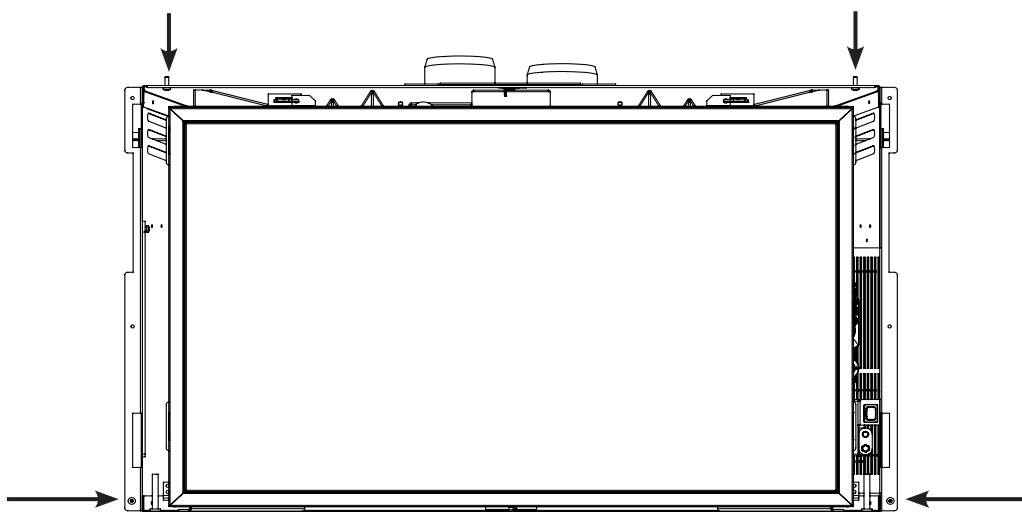

Figure 41: Screw Locations.
If Installing a Contemporary or Extruded surround panel lift the front up until it locks in place. Lift the panel upright in front of the fireplace with the top mounting flange pointing towards the fireplace. Slide the panel over the corresponding screws on top of the Top Extension and at the bottom of the Side Extension on each side (see Figure 41). Ensure the panel is secure before releasing it. The bottom screws can be tightened on the Contemporary and Extruded surrounds for a more permanent install.
1. Using the supplied hardware install a Trimmable Panel Bracket, on its short leg, onto each side of the stove using a T-20 Torx screwdriver. See Figure 41 for the screw location and bracket orientation.